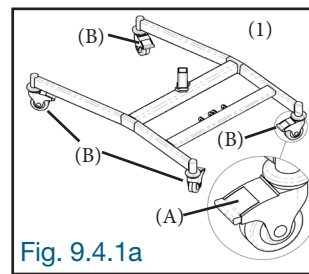

Fig. 9.4.1a
9.4.1 Place the base with wheels (1) on the ground and securely lock the brakes (A) of all four wheels (B) (Fig. 9.4.1a).